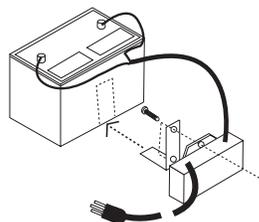

Figure 1. **Charger Mounting**
- a) Fasten the supplied mounting bracket to the charger with the two screws and two nuts as illustrated in Figure 1.